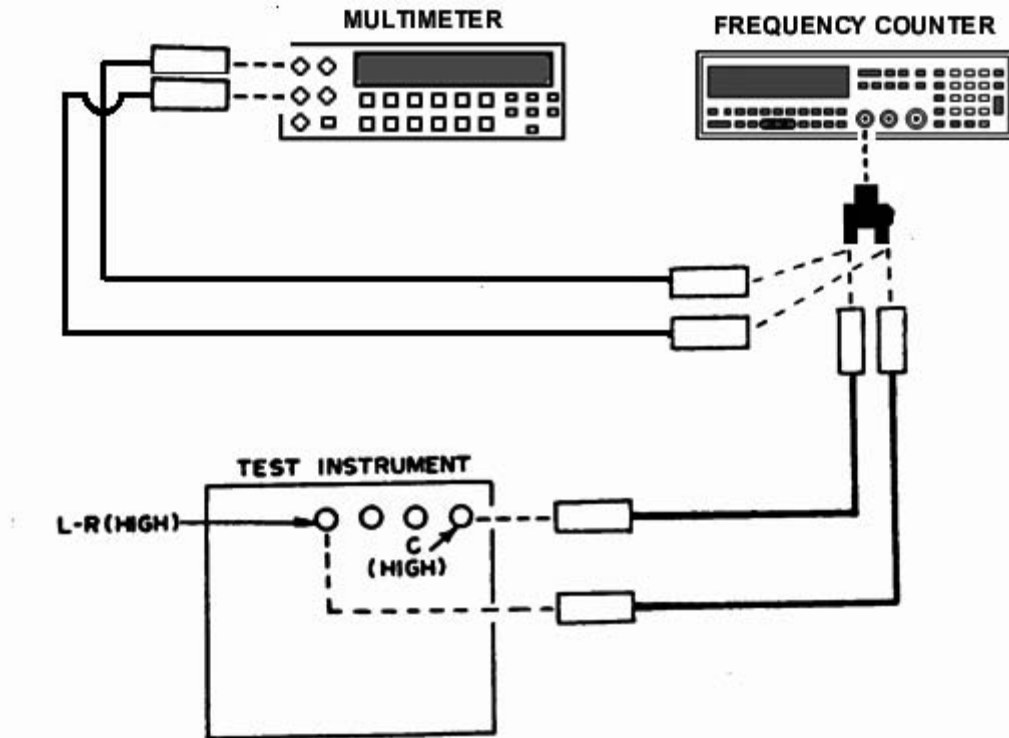

Figure 2. Oscillator - equipment setup.
(1) Connect equipment as shown in figure 2.
(2) Position controls as listed in (a) through (h) below: